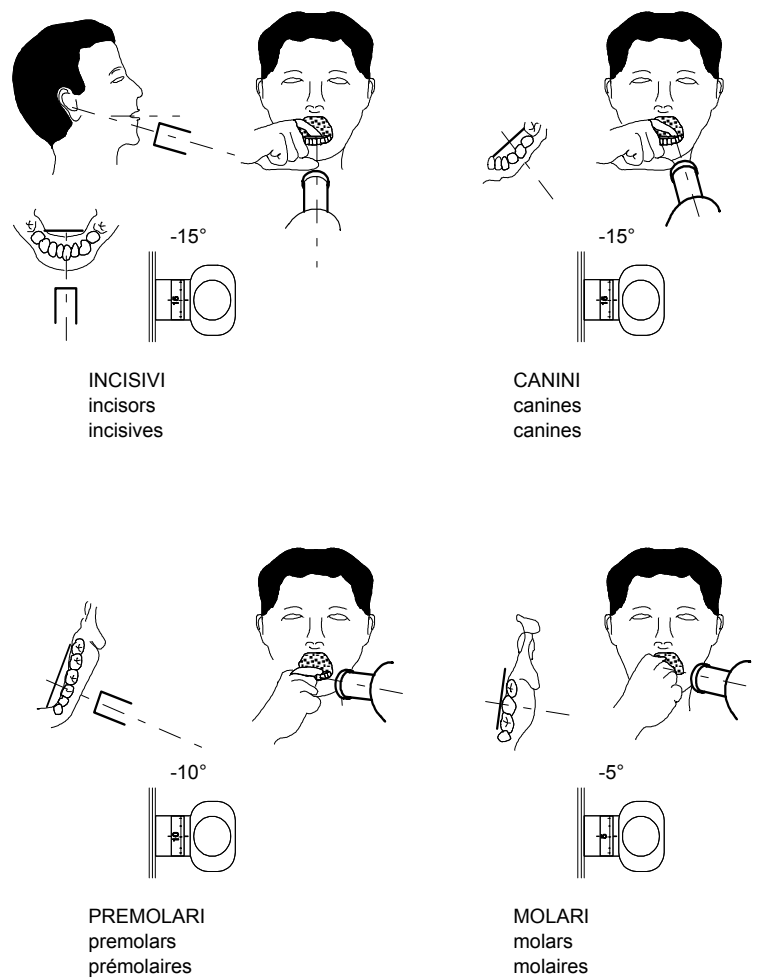
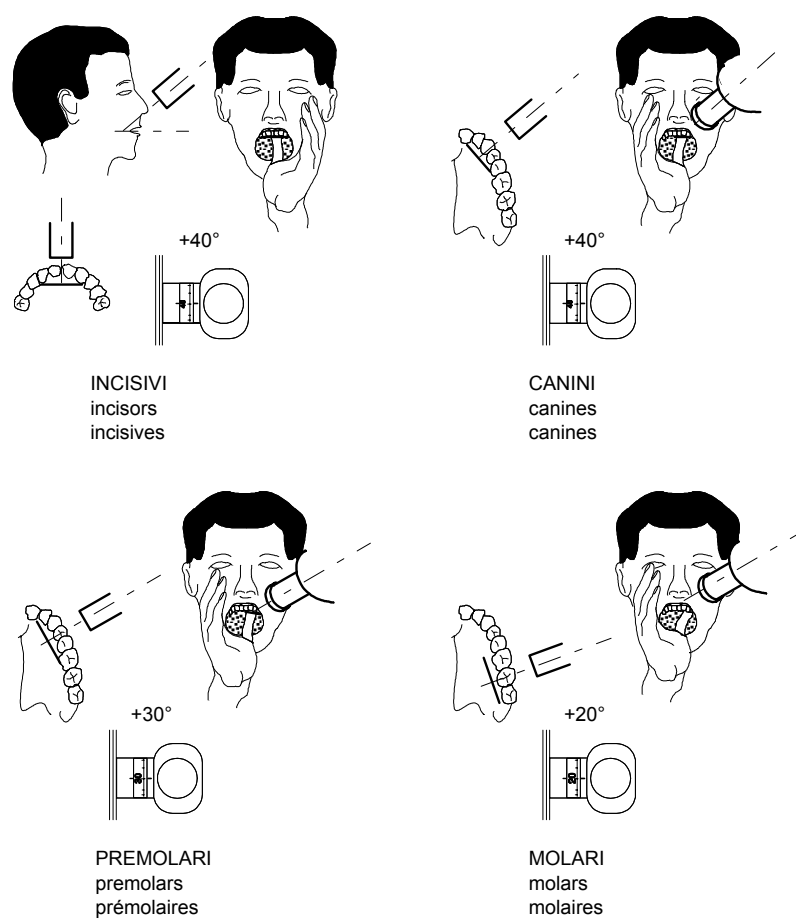
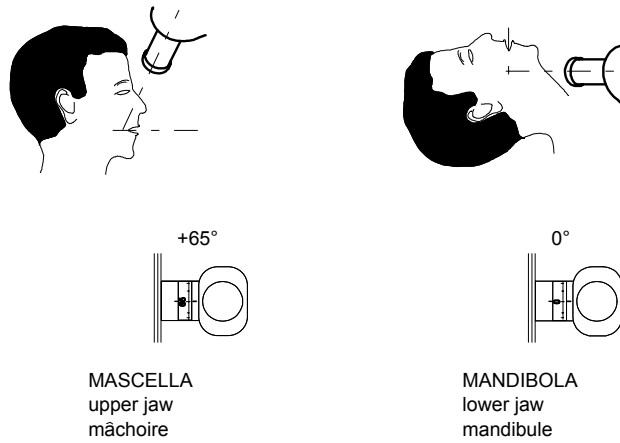
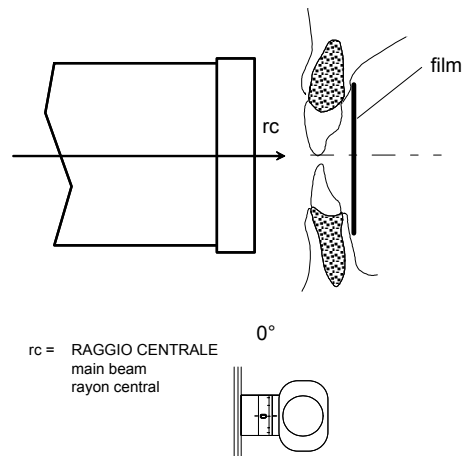

Figure 9
Figure 10
Figure 11
Figure 12
- a) Set the tubehead with an angle suitable for the exposure and positioning requested (see Figure 9, Figure 10, Figure 11, Figure 12).